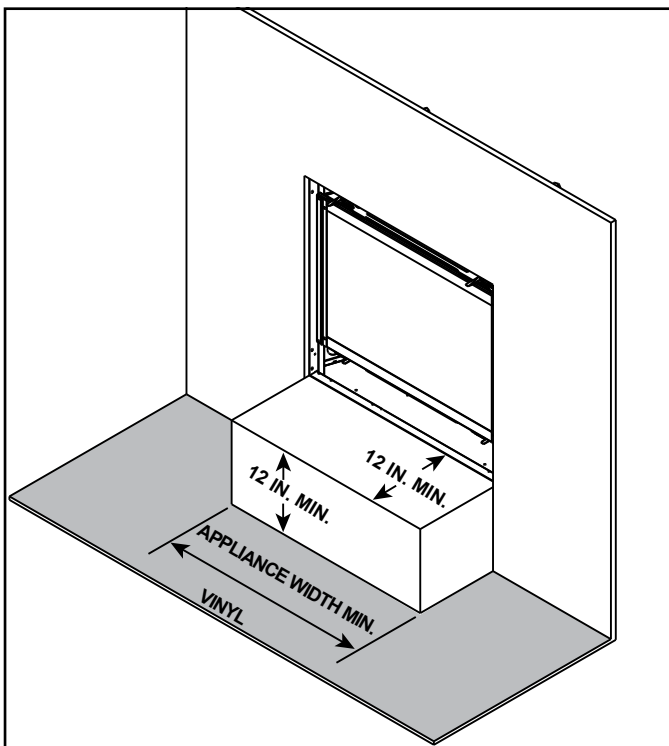

Figure 3.14 Vinyl Flooring Recommendations
Vinyl flooring is sensitive to heat. To avoid damage to the vinyl flooring, a 12 inch minimum x 12 inch minimum hearth is recommended when using vinyl flooring up to the wall. See Figure 3.14. If no hearth is used, it is recommended to provide a minimum of 30 inches of clearance in front of the appliance to the vinyl flooring OR the bottom of the appliance should be raised a minimum of 24 inches off of the floor to allow the vinyl flooring to be installed up to the wall.
- Combustible flooring may be located in front of the appliance. There are exceptions in regards to vinyl and/or adhesive flooring for these models as noted in Figure 3.14.